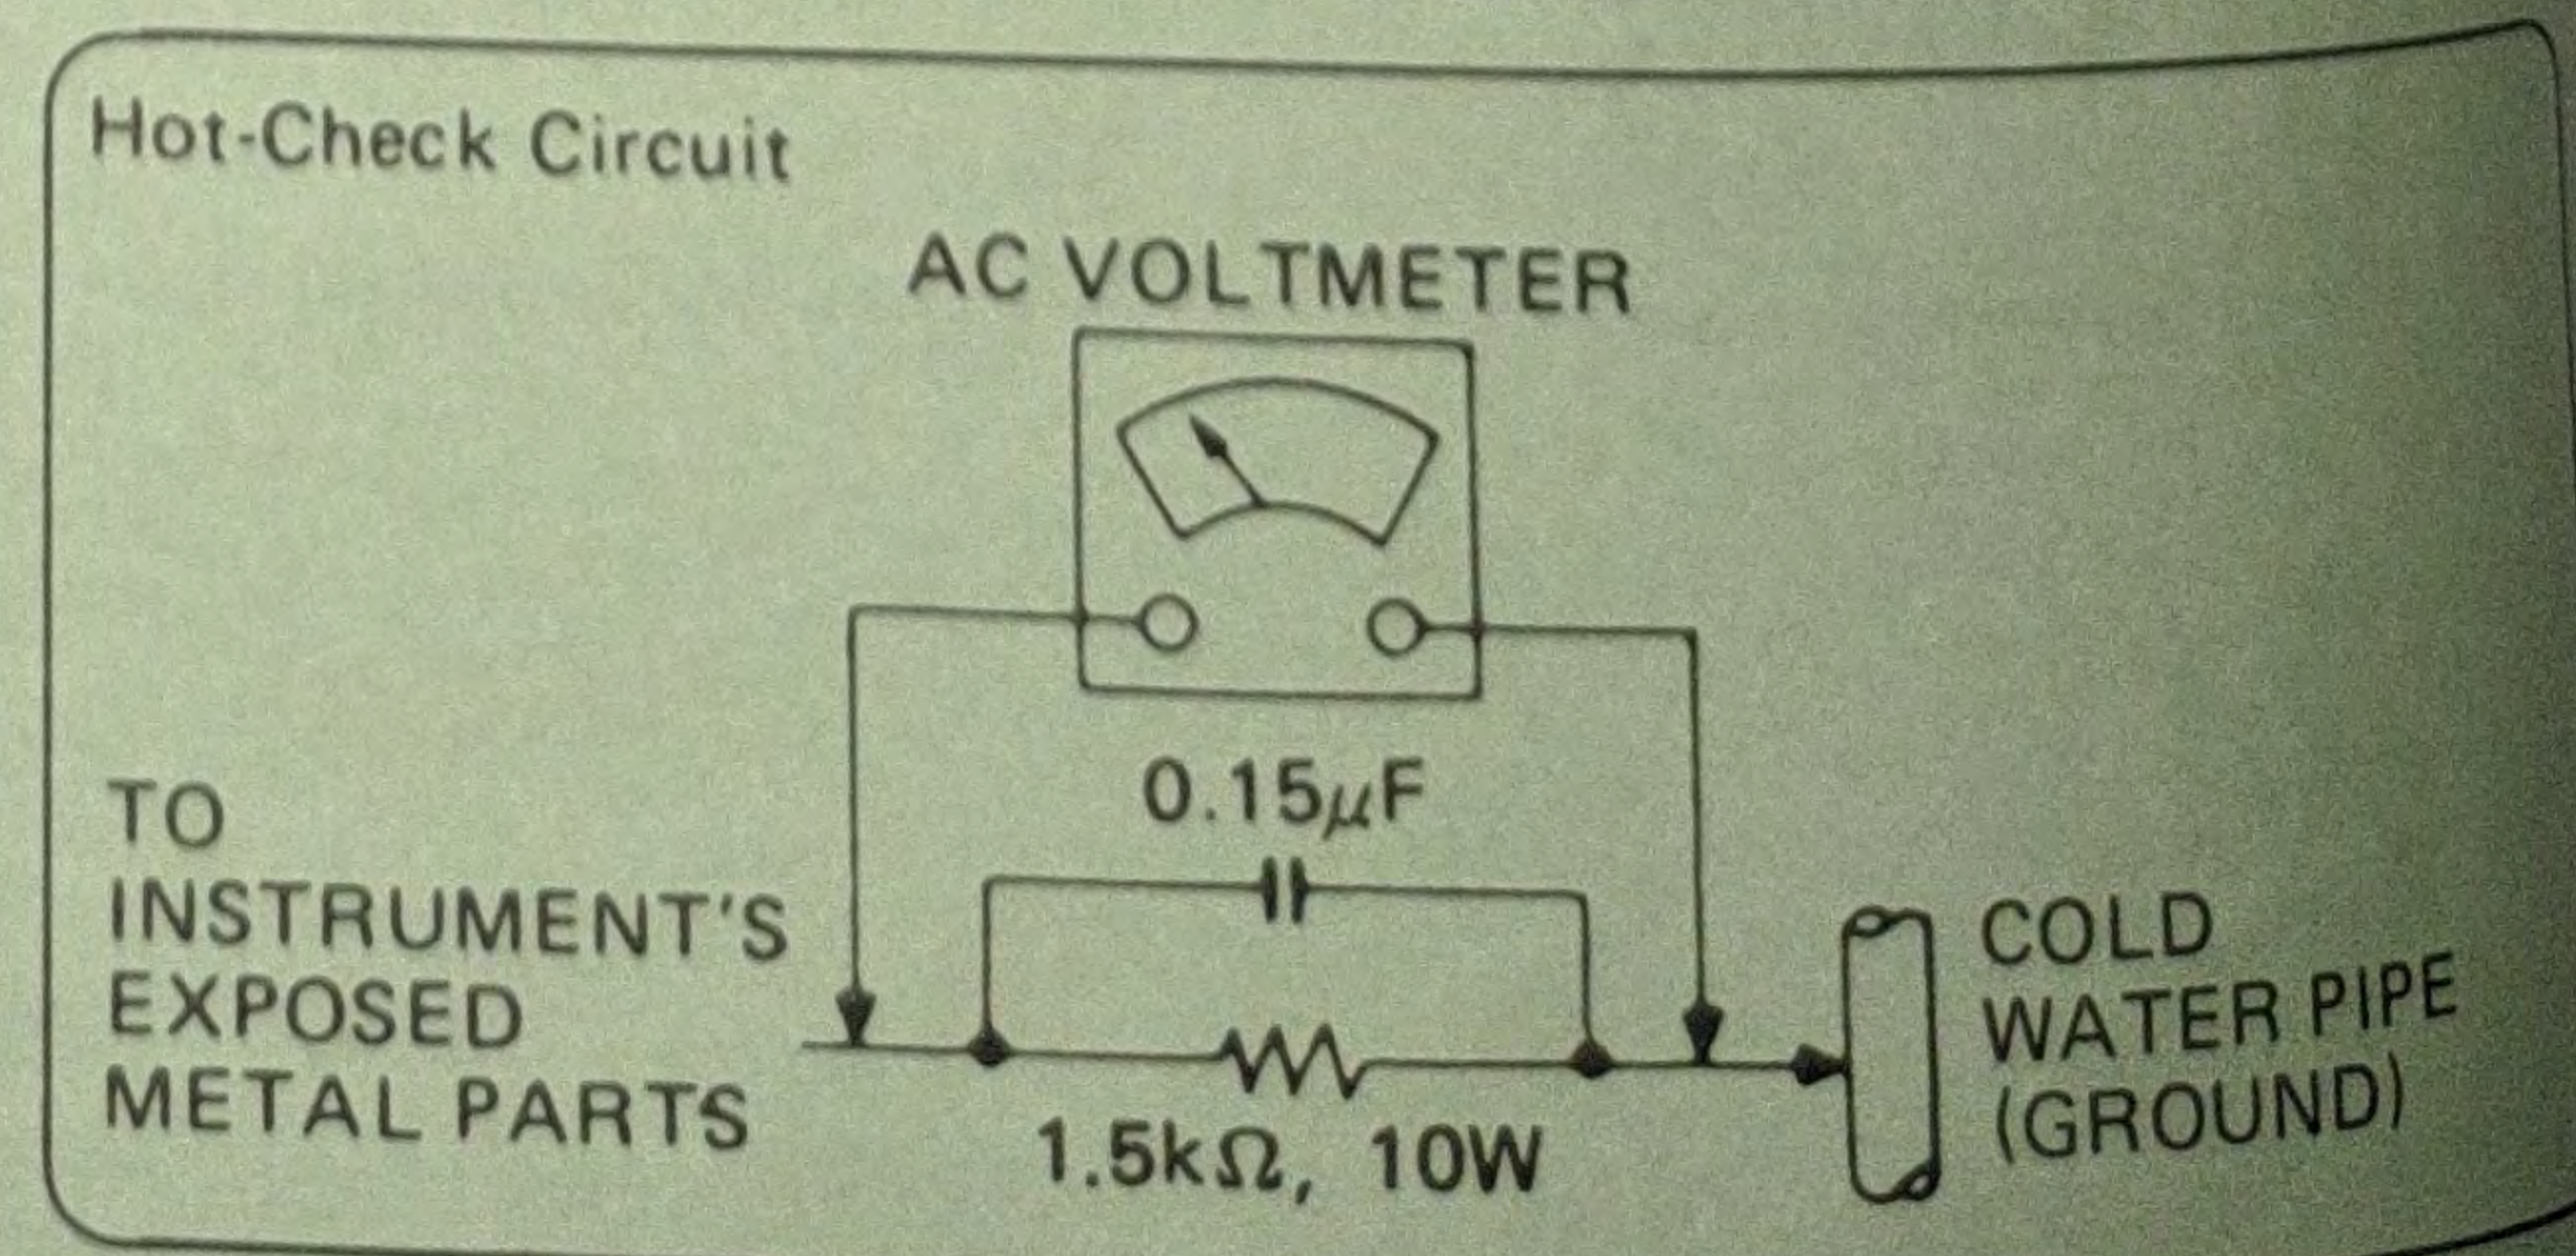

Fig. 7
LEAKAGE CURRENT HOT CHECK (See Fig. 7)
2. Connect a 1.5 k Ω , 10 watt resistor, in parallel with a 0.15 μ F capacitor, between each exposed metallic part on the set and a good ground such as a water pipe, as shown in Fig. 7.